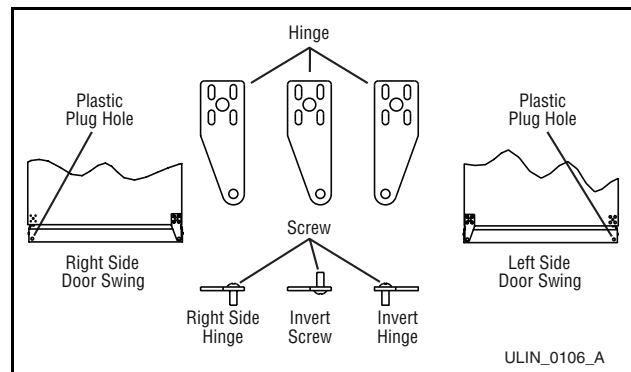

Figure 13
- Remove pivot screw from top hinge, invert screw and reinstall pivot screw in top hinge (**Figure 13**). Do not install hinge on cabinet at this time.
- Remove pivot screw from bottom hinge, invert screw and reinstall pivot screw in hinge (**Figure 13**).